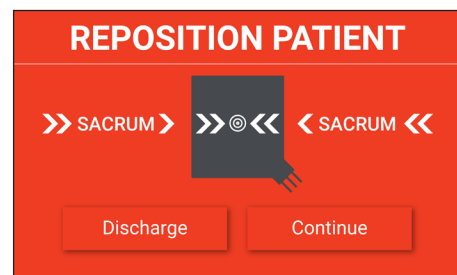

Figure 27. Patient not on seat, procedure table, or wheelchair enhancer screen
3. For the seat and wheelchair enhancers, ensure that the patient is positioned properly on the enhancer, with the sacrum centered over the target. It is important to ensure that the air chambers are entirely in contact with the underlying surface and not folded over the front of the seat. (Fig. 27)